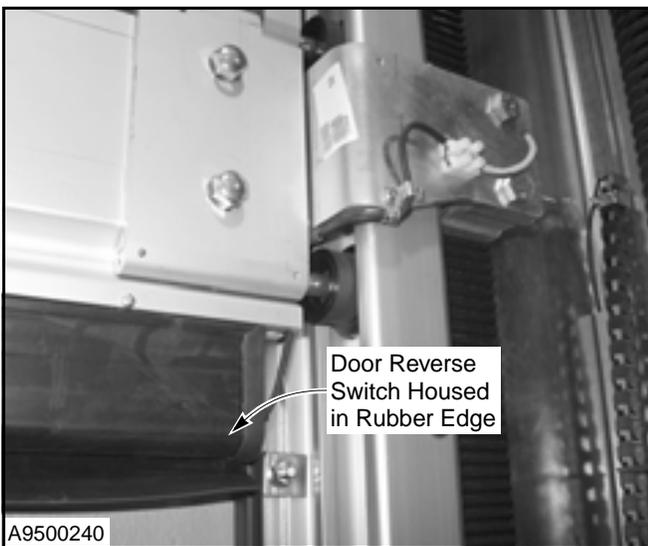

Figure 11
3. When the door is a few feet from the fully closed position, hit the rubber reversing edge that runs along the bottom edge of the door. Stand outside the photo eyes to avoid activating the photo eye circuit. (See Figure 11.)